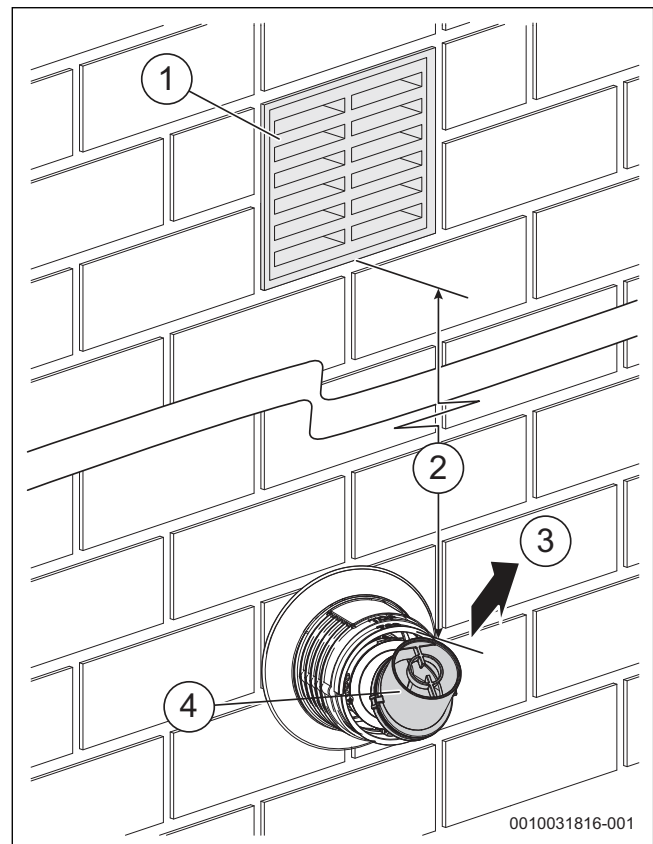

Fig. 23 Plume redirect distance to an opening
- ▶ When redirecting the flue discharge the terminal end must be at least 1,500mm from any opening in the direction of the discharge to prevent combustion products from entering the building as shown in figure 23